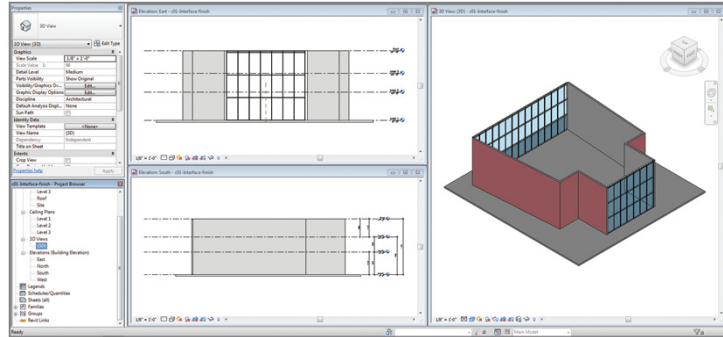

FIGURE 1.21 Wall segments have been changed to a different type.
8. At the top of the Properties palette is the Type Selector. Click it to open the list of available wall types in the project. Scroll down to the bottom of the list, and select the type **Curtain Wall: Exterior Glazing**. You may get a warning when you make this change; if so, just select **Unjoin Walls** or whatever the recommended action is. Your result should look like Figure 1.21.